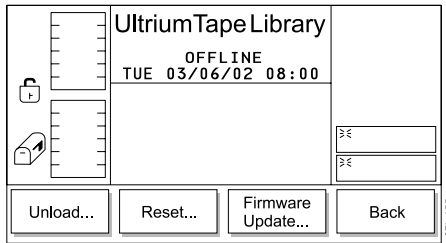

Figure 371. Drives Submenu
2. Press the button below the **Drives** softkey. The Drives Submenu displays (see Figure 371 on page 240).